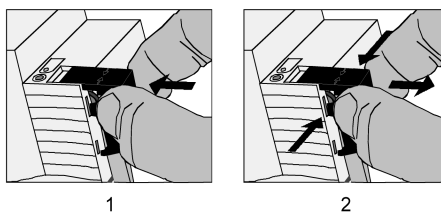

Figure 7: Installing / removing the protective cap for the bus connection
- To install the cap: slide the cap over the bus connecting terminal until you feel it engage (figure 7).
- To remove the cap: Remove the cap by pressing the sides slightly and by pulling it out to the front (figure 7).